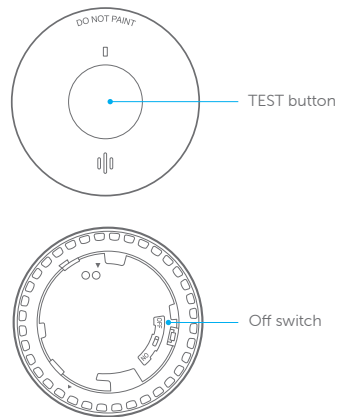

Figure 9
5. The smoke alarm can be switched off again by turning the switch on the rear to the off position (see Figure 9).